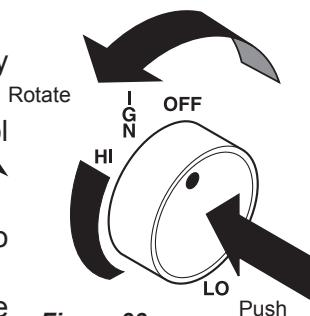

Figure 33 - IGN Position
6. From OFF position, push in gas control knob slightly and turn counterclockwise ↗ to the IGN position. *Figure 33.* Push in and hold control knob for 5 seconds.